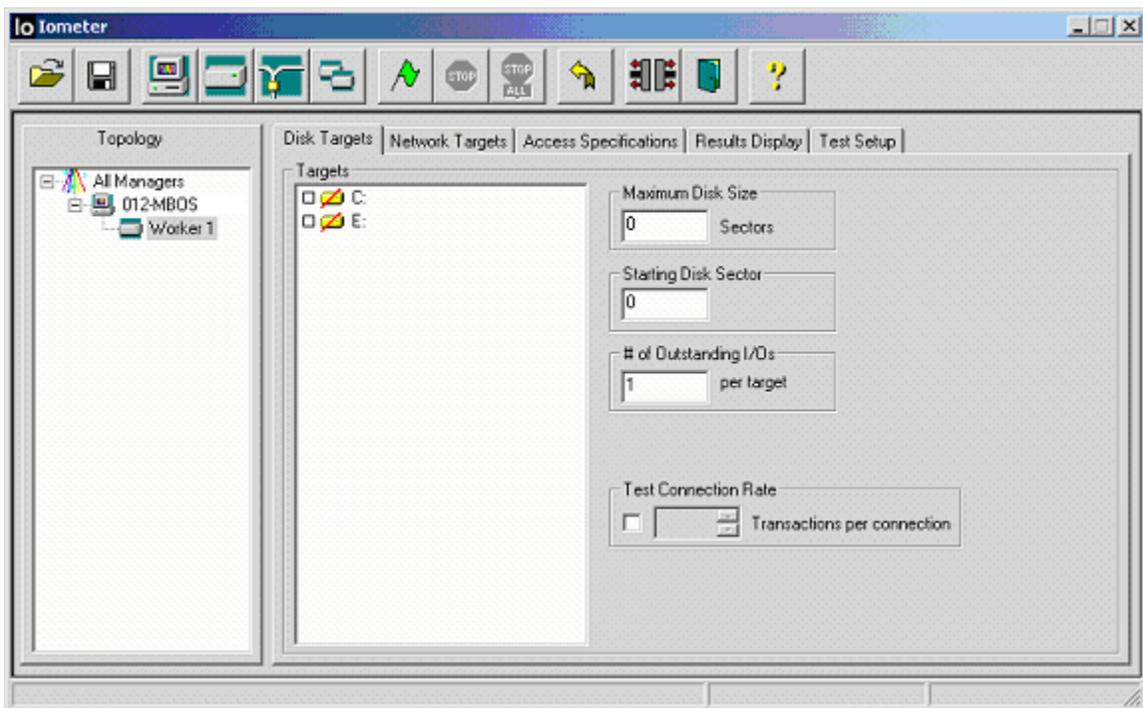

Figure 2
- In the Topology pane (see figure 2), select Worker 1. You may have multiple workers in this pane. You will need to repeat these steps for each worker.